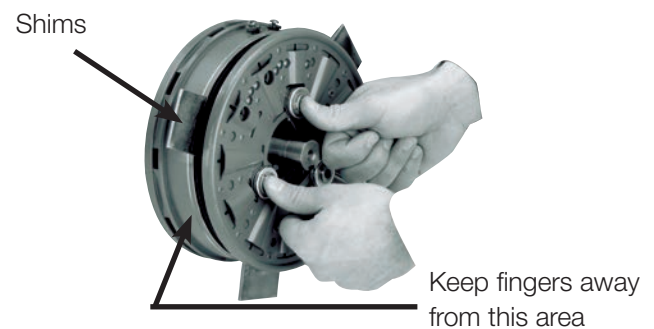

Figure 10 - Armature installation with shims in place.
Step 9: **Make sure no power is applied to the brake.** Place three steel shims 120 degrees apart on the magnet as shown in Figure 10.